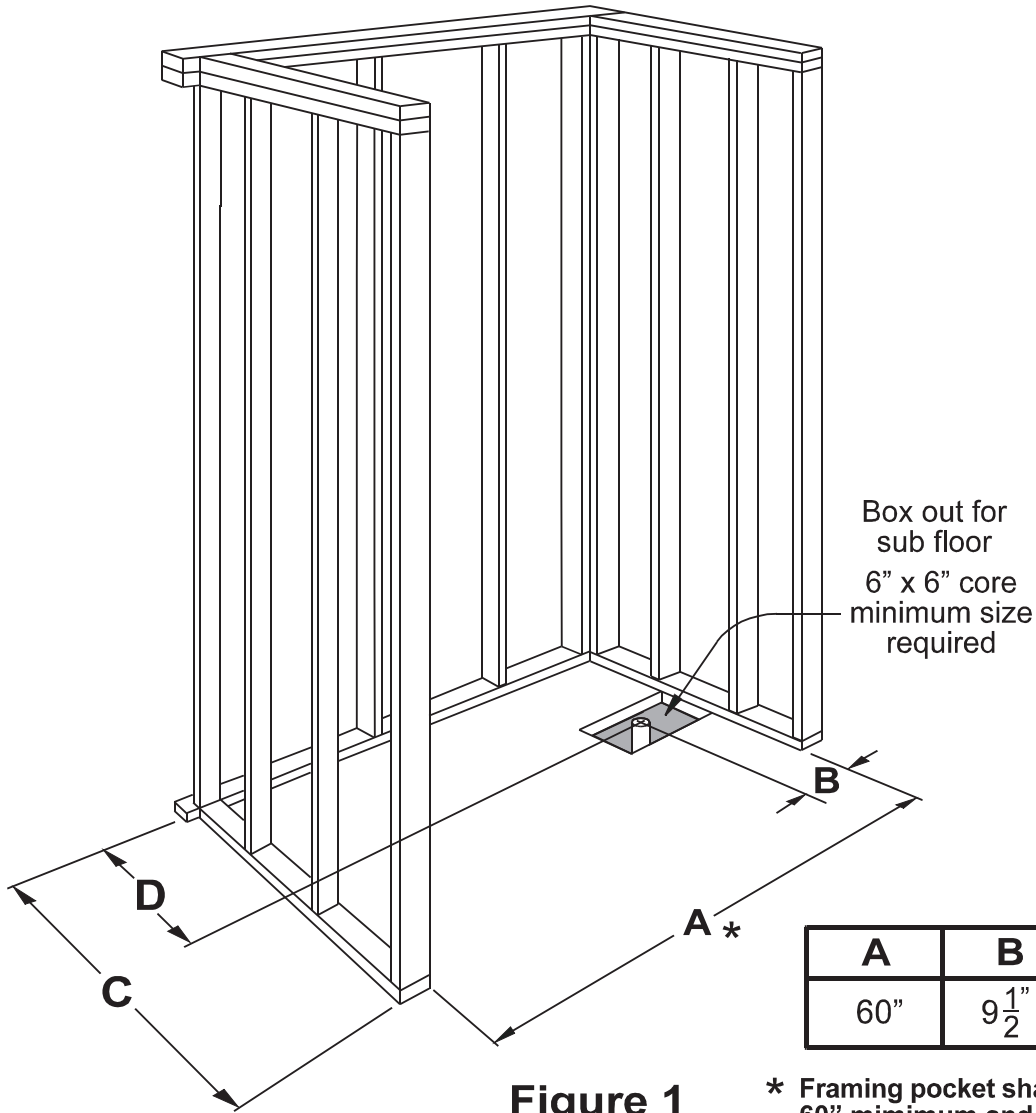

Figure 1
2. Carefully remove the old bathtub at the installation site. The replacement showers are 77" tall so wallboard should be removed on all three walls to at least this height. Measure the framing pocket to insure the framing area and stud walls are square and measures: 60 1/4" wide x 33 1/4" deep. The floor must be clean, solid, and level. Relocate drain in floor if required. There is a 6" cutout around the drain area. See *Figure 1*
See framing diagram in *Figure 1* for more information.
3. Review the framing diagram in *Figure 1*. Modify existing framing if required. For new construction, build framing structure in accordance with product dimensions and notes shown in the framing diagram.